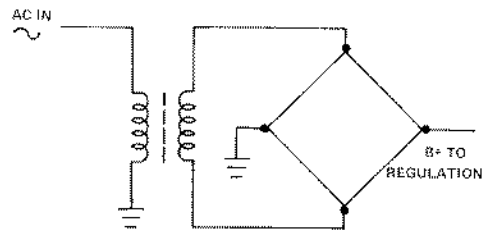

FIGURE 5
(2) Use a bridge rectifier with a transformer (see Figure 5). This avoids the B- line complications and now bias connections can go directly to the ground plane on the amplifier circuit.